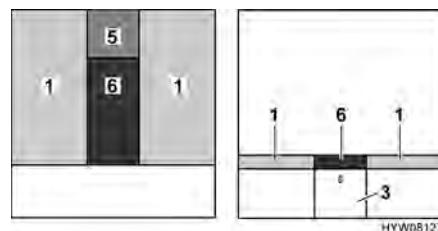

Fig. 76 After conversion
- Place the additional cushion (Fig. 76,5) on the bedside locker.
- Place the additional cushion (Fig. 76,6) between the mattresses (Fig. 76,1).